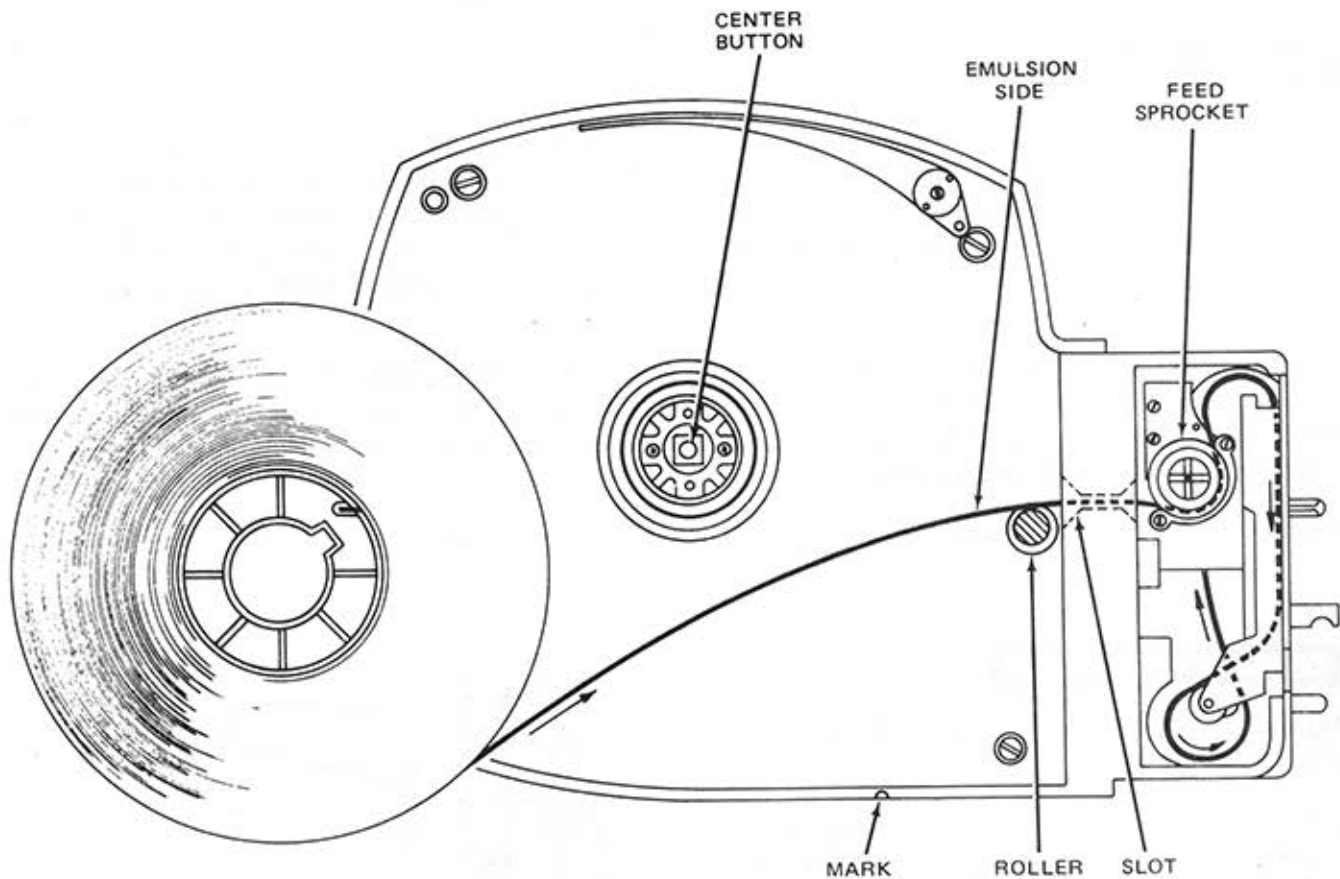

Figure 2-2. Threading Film on Supply Side of Magazine
4. Insert film into slot above roller with emulsion up (figure 2-2).
5. Push film through slot until you feel the perforations engaging the teeth on the feed sprocket (figure 2-2).
6. Rotate feed sprocket counterclockwise and feed film into front compartment of magazine (figure 2-2).
10. Continue to turn takeup sprocket clockwise to advance film through gate until the cut end reaches the mark on the bottom of the magazine (figure 2-2).